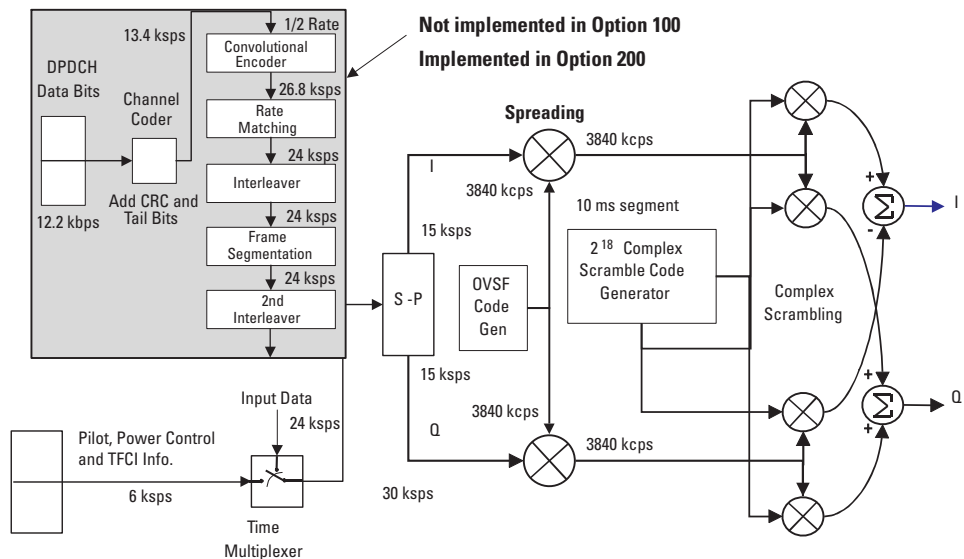

Figure 4. Difference between Option 100 and 200 downlink.
- Option 200 generates fully coded signals. Option 100 generates partially coded signals. Figure 4 outlines the difference between the two solutions.